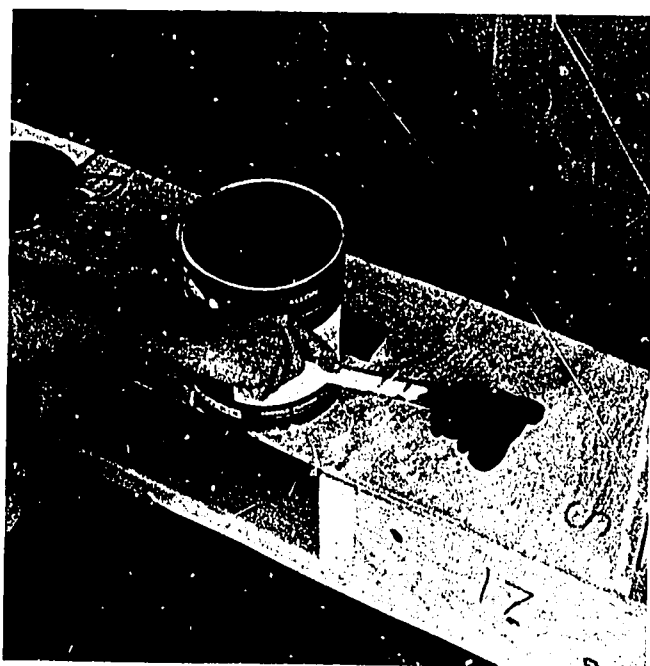

Fig. 63-3. Applying Mastic
- c. Spread the mastic evenly. See Figs. 63-3 and 63-4.